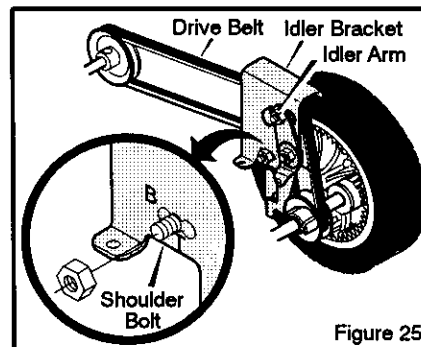

Figure 25
10. Note the three assembly holes for the idler pulley (Figure 25). To install a new belt, use the hole marked with a "B" for Briggs and Stratton engines and use the hole marked with a "T" for Tecumseh engines.